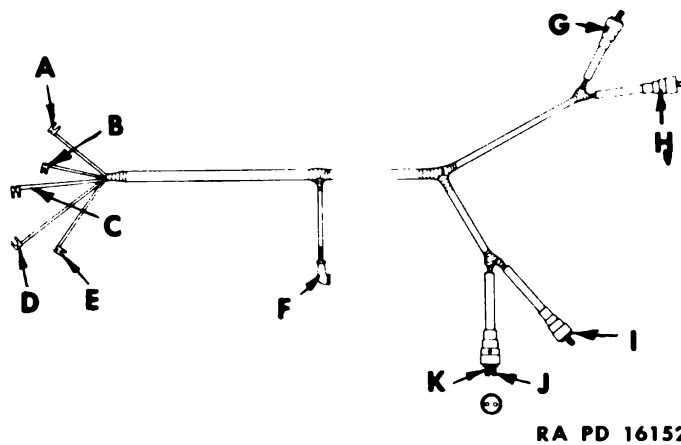

Figure 106—Stop and Tail Lamp Wiring Harness
j. **Stop and Tail Lamp Harness (Fig. 106).** This harness extends from junction blocks through bulkhead and rearward along under side of left-hand coaming and under rear deck to stop and tail lamps.